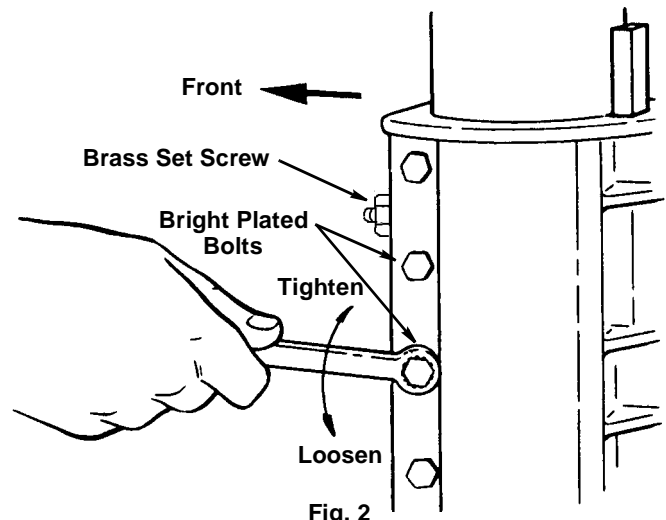

Fig. 2
1. Loosen (2) 1/4 - 20 Gib socket cap screws on the left side at the rear of the column support slightly (1/2 turn).
Using the closed end of a box wrench, tighten all of the 5/16-18 black screw heads on the column support casting 1/16th to 1/8th of a turn. Tighten the (2) 5/16-18 silver screw heads slightly more than the black ones to achieve a close fit to the column tube (Fig. 2). (A 1/4" drive ratchet with a six point socket may be needed to get enough torque on bolts.) Loosen nut on brass set screw. Tighten the brass set screw firmly and retighten nut (Fig. 2).